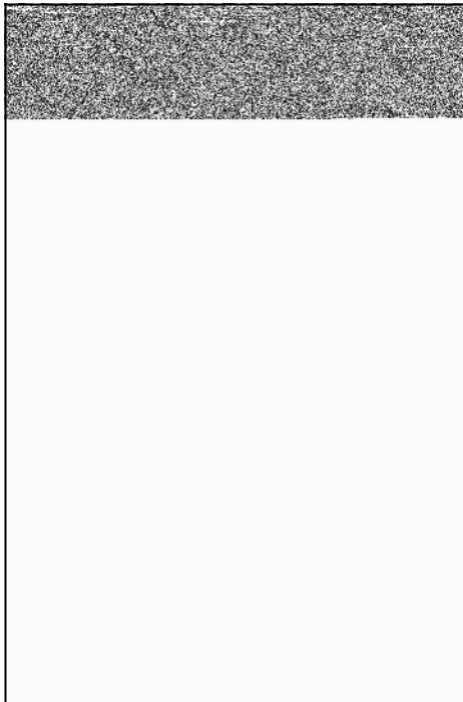

Figure 37
3. Connect one meter test lead to the end of one wire connector and other test lead to the opposite connector in the same wire (Figure 37). Meter should read low or no resistance.